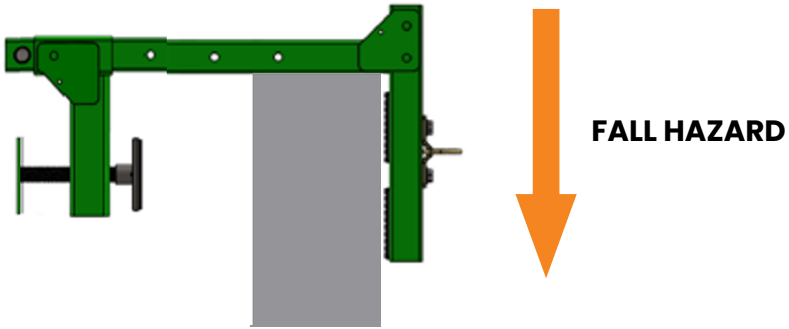

Figure 5 – D-ring Anchor Facing Outwards Towards Fall Hazard
1. Position the parapet's adjustable arm and fixed arm in between the parapet wall with the d-ring anchor facing outwards towards fall hazard as shown on figure 5.